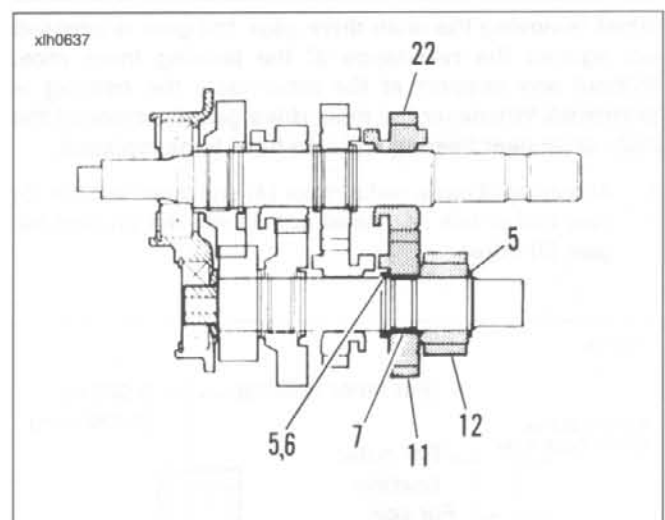

Figure 6-49.
14. See Figure 6-49. Install retaining ring (5) and thrust washer (6) on countershaft. Install split bearing (7) into seat next to thrust washer (6).
15. Install countershaft 2nd gear (11) over bearing (7).
16. Install mainshaft 2nd gear (22) onto shaft. The shifter fork groove must face the access door.
17. Install shouldered countershaft 5th gear (12). The single radial groove must face away from the access door.
18. Expand retaining ring (5) and slide into groove next to countershaft 5th gear (12).